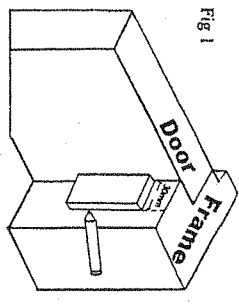

Fig 1
1. With the door in the closed position, place the wooden marker block vertically against the frame (fig. 1). With a pencil held at the side of the block on the frame side draw a line from top to bottom of the frame using the block to ensure the line is a consistent distance from the door.